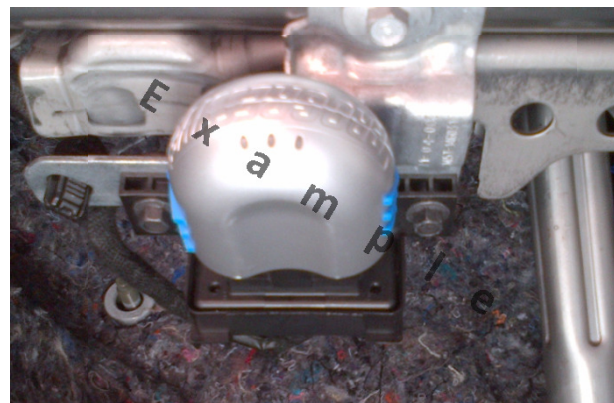

Figure 1 - Insurance data logger connected to the DLC / Gateway module
- Insurance data logging device. (Figure 1)